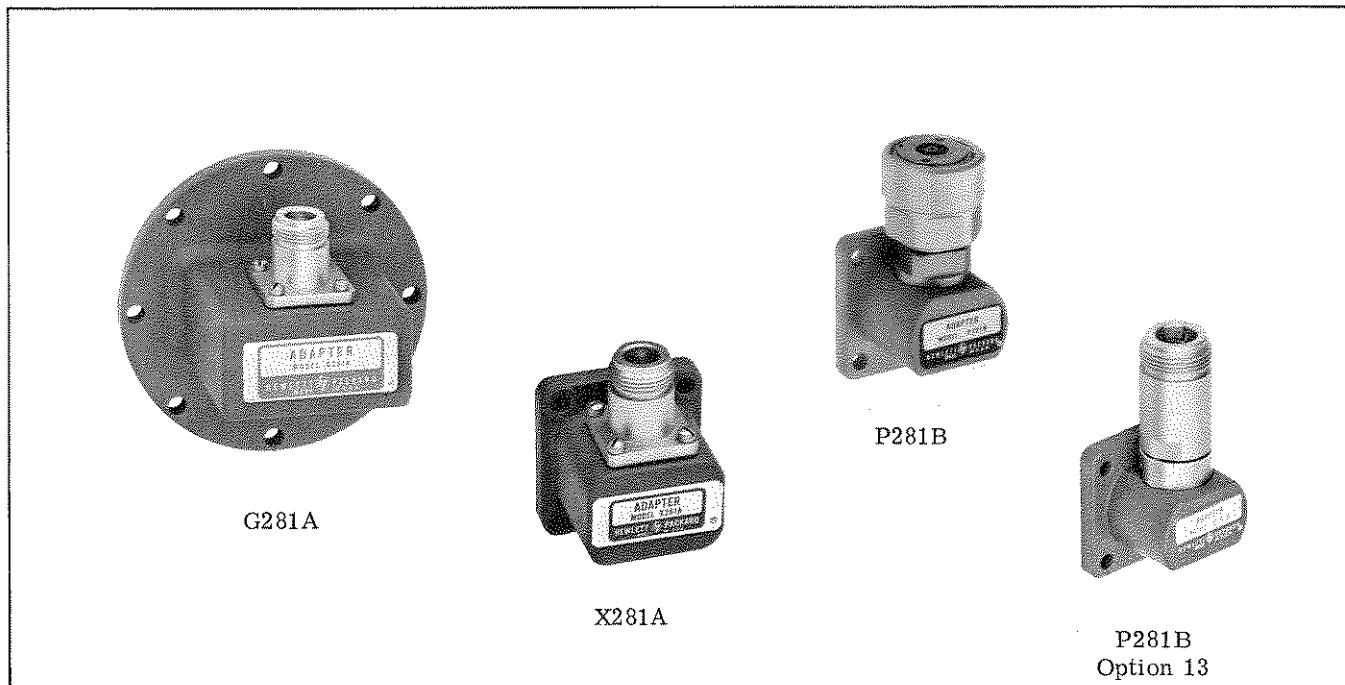

Figure 1. Typical Adapters Showing Flange Types and Coaxial Connector Styles
3. Examples of the waveguide flanges and coaxial connectors used on these adapters are shown in Figure 1. Two types of flange and three versions of 7-mm coaxial connector are used. S, G and J adapters have circular flanges - H, X and P have rectangular flanges. Plated brass Type N female connectors, which are compatible with connectors conforming to MIL-C-71, are used on all A model adapters. Except for Option 13 adapters, B model adapters have Amphenol1 precision 7-mm (APC-7) connectors. These APC-7 connectors feature precise alignment, a clearly defined reference plane, and low RF leakage. In addition, any pair can be connected together without an adapter. Option 13 adapters have stainless steel Type N female